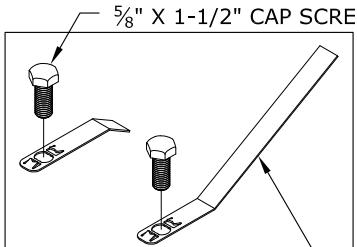

FIGURE C1: Bolt Guides
- Assemble bolt guides.** Assemble the bolt guides by threading a  $\frac{5}{8}$ " bolt onto each guide as shown in figure C1 and C2. Tighten the bolt onto the guide so that the shoulder of the bolt head is flush with the surface of the bolt guide. This is designed to be a tight fit. A wrench may be needed to thread the bolts onto the bolt guides. The notches of the bolt guide must engage the corners of the bolt head so that the bolt is prevented from "backing off" of the guide. The notches of the bolt guide may have to be pried up if they were smashed down when the bolt was tightened down.